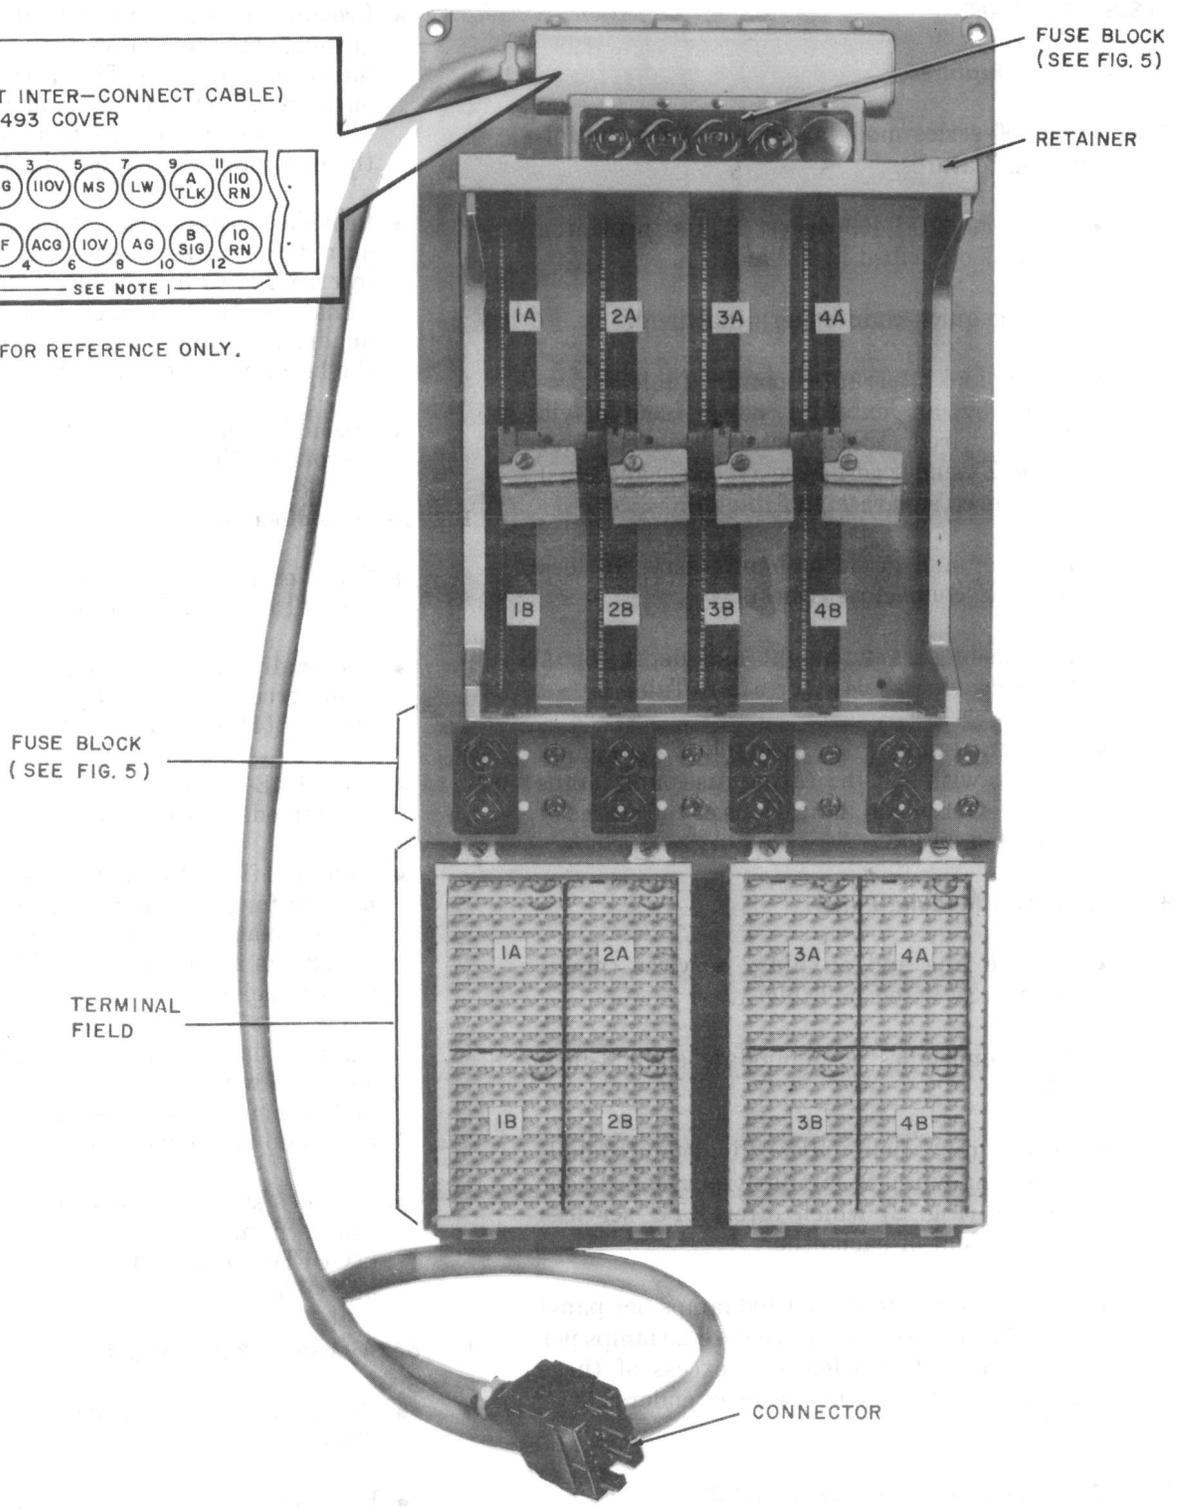

Fig. 1—620A2 Modular Panel
- Retainer and guide assembly serve to lock KTUs in connectors (Fig. 1).
C. 620A2 Modular Panel (Fig. 1 and 2)